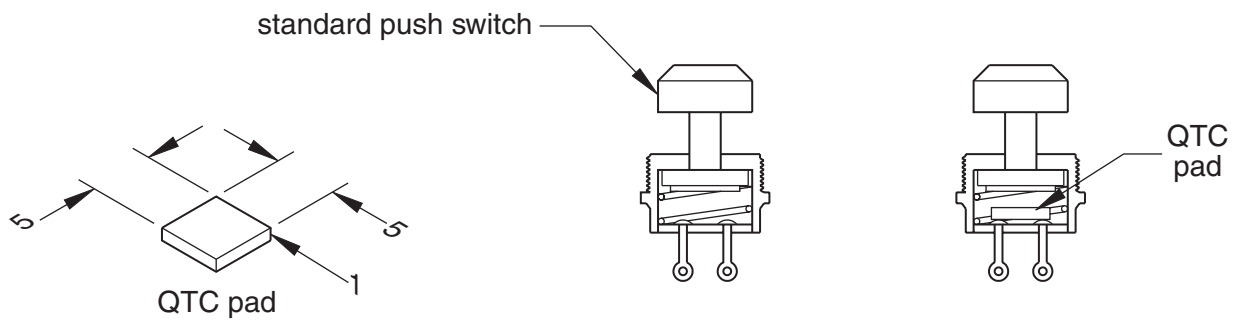

Fig. 19
- (c) Fig. 19 shows a new *smart* material known as QTC that can be used for switch construction. When it is compressed it will begin to conduct, the resistance falls as pressure on the material is increased. When used as part of a push switch it will reduce arcing and control contact bounce effectively.